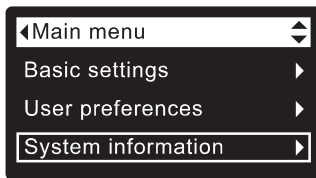

FIG. 116
1. From any of the rolling status screens, press the SELECT (O) button to display the **Main menu**.
2. Press the DOWN (▼) button to scroll through the menu options until **System information** is highlighted (See Figure 116).